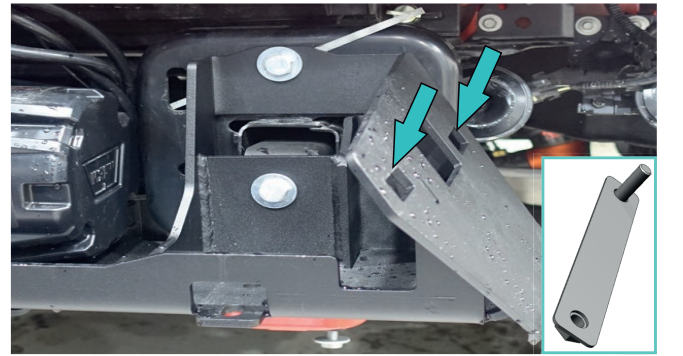

Fig.59
56. Through the bumper body winch access hole install insert nut (item 29) to the winch bracket as shown in fig.59.